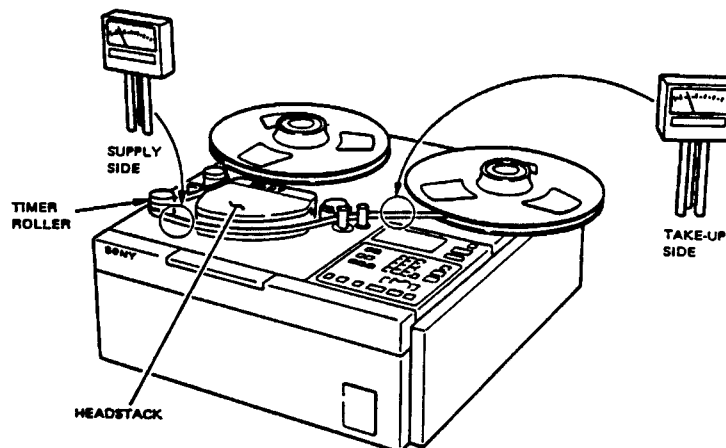

Figure 6-14. Tentelometer Placement
STEP 5 Check the supply side tension by placing the tentelometer at the supply side check point shown in Figure 6-14. The supply side tension in PLAY mode should equal 70g (+/-5g). If the supply side tension does not equal 70g (+/-5g), perform the adjustment procedure listed in Section 6.5.6.4.
STEP 6 Check the take-up side tension by placing the tentelometer at the take-up side check point as shown in Figure 6-14. The take-up side tension in PLAY mode should be 120g (+/-5g). If the take-up side tension is not 120g (+/-5g), perform the adjustment procedure shown in section 6.5.6.4.
STEP 3 Place the tentelometer at the supply side check point as shown in Figure 6-14.
STEP 5 With the machine still in PLAY mode, place the tentelometer at the take-up side check point as shown in Figure 6-14.